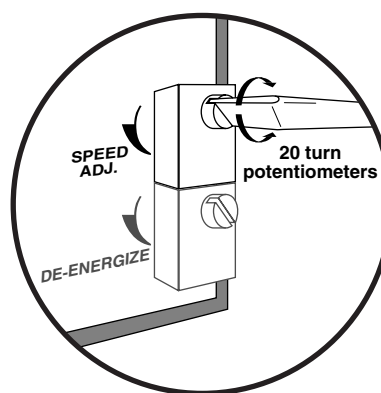

Figure 14
2. Turn the **SPEED ADJUST** pot fully clockwise 20 turns (**Figure 14**).
6. Adjust the **DE-ENERGIZE** pot clockwise until the **ENERGIZE** LED goes “OFF” and the relay has dropped out (**Figure 14**).